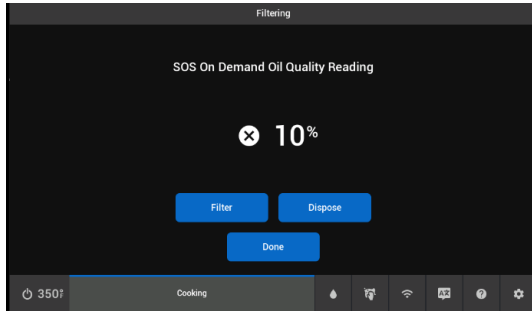
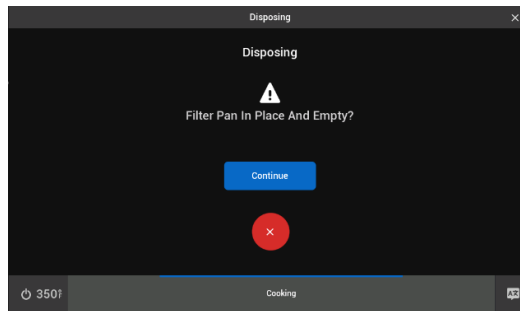

Figure 129 - Oil Quality Poor
Figure 131 - Filter Pan in Place and Empty?
- If the oil quality is Poor **Figure 129**
If operator chooses not to dispose and click **Filter** **Figure 129**, the interface will bring the operator through the automated filter process. Refer to 6.1 Auto Filtering.
- In the case of the poor oil quality **Figure 129**, the operator can choose **Dispose** (*recommended*) and the screen transitions to **Figure 131**